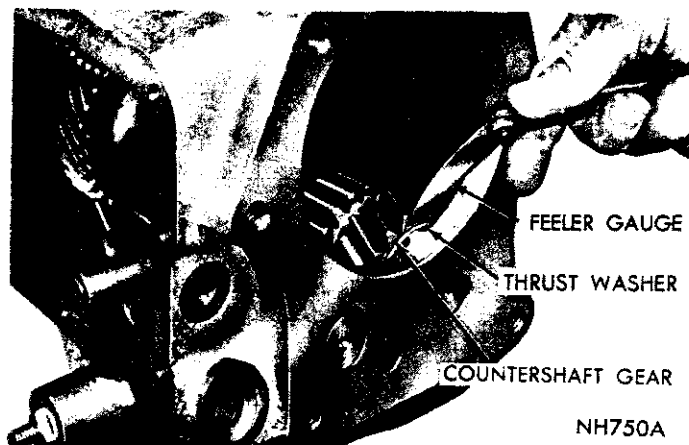
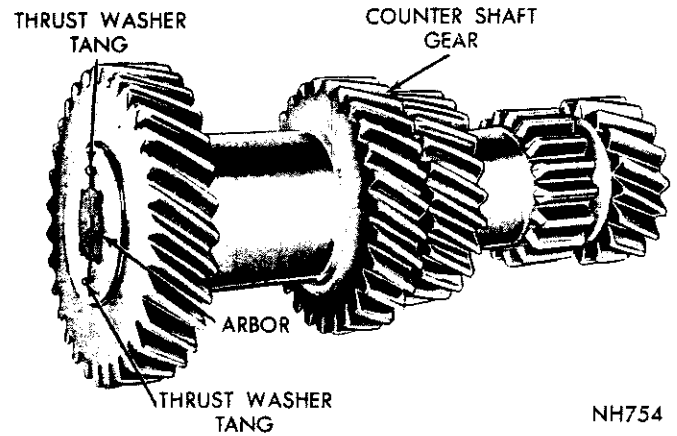

Fig. 29—Measuring Countershaft Gear End Play
Fig. 36—Countershaft Gear and Arbor Assembly
(12) Using a feeler gauge, measure end play of countershaft gear, by inserting gauge between thrust washer and gear (Fig. 29). This measurement should be .015 to .029 inch. If measurement is greater than that specified, new thrust washers must be installed at reassembly.
(3) If countershaft gear end play exceeded .029" when measured during disassembly (Fig. 29), install new thrust washers. Coat thrustwashers with heavy grease and install them over arbor with tang side toward the case boss (Fig. 36).